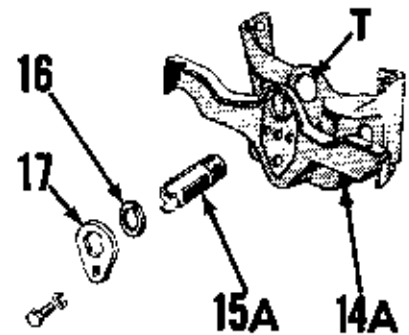

Fig. FO2—Service installed front support has threads (T) for threaded front axle pivot pin (15A).
Fig. FO1—Exploded view of front axle and related parts. Original type front axle support (14) and pivot pin (15) are shown. Refer to Fig. FO2 for later style service front support and pivot pin.
move the pivot pin. On models with service installed threaded pivot pin (15A—Fig. FO2), remove the cap screw and locking flange (17) and unscrew the threaded pin by turning it counter-clockwise as shown in Fig. FO5. Loosen radiator retaining nuts at bottom if necessary to provide clearance and withdraw axle center member from either side of tractor.
On threaded type front axle pivot pin, install snap ring (16—Fig. FO2) on pivot pin and thread pin into front support until snap ring contacts front support firmly, then back-out pin until lugs on pin will engage slots in locking flange (17). Secure locking flange with cap screw and lock washer.